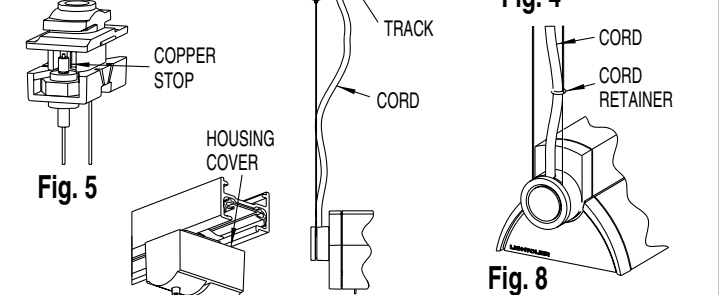

Fig. 3
**WARNING:** TO PREVENT ELECTRIC SHOCK, TURN OFF POWER TO TRACK. NEVER PLACE AIRCRAFT CABLE INSIDE TRACK CAVITY (see Fig. 3).
5. Adjust suspension length and leveling by pulling AIRCRAFT CABLES through CABLE LOCK. See Fig. 3.
**NOTE:** To lower luminaire, hold CABLE, depress CABLE LOCK, and pull CABLE down. See Fig. 3.